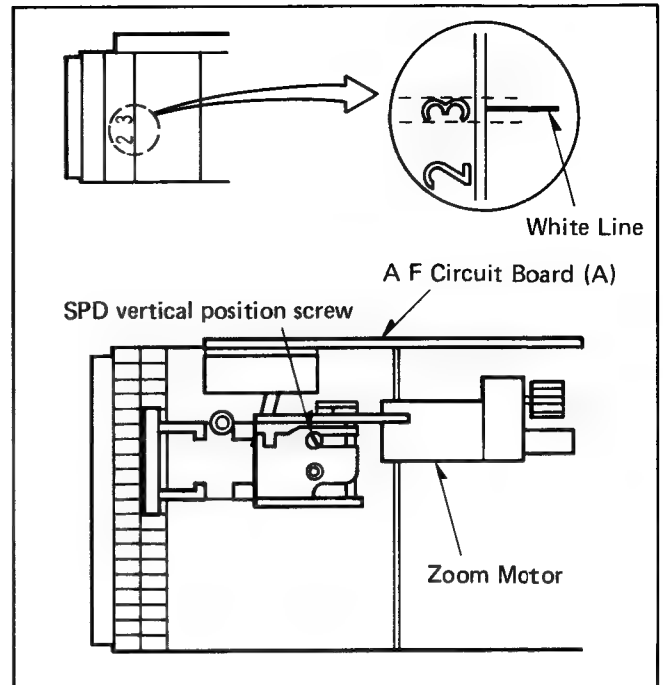

Fig. 9 SPD Vertical Position Adjustment
4. Confirm the focus ring indicates the 3 meter. If the focus ring doesn't indicate 3 meter, adjust the SPD vertical position adjustment screw as shown in Fig. 9. (Preadjustment)
4. Then, adjust the SPD vertical position adjustment screw so that the focus ring indicates the 3 meter position, return back to the 3 meter position from the infinity side and near side as shown in Fig. 9.